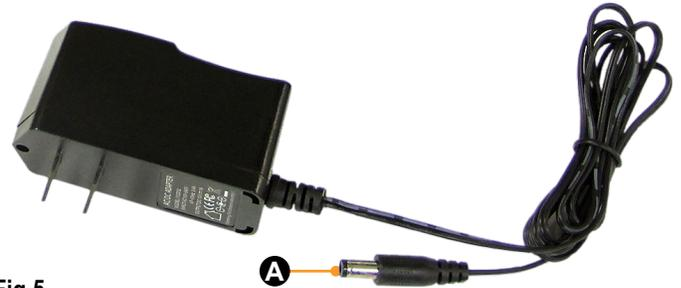

Fig.5
7. Use the 120V AC/DC adapter (Fig.5) for a power source by inserting the power supply's barrel connector (Fig.5A) into the back of the cellular gateway (Fig.7A), or plug the 12V DC/DC barrel connector (Fig.6B) into the back of the cellular gateway (Fig.7A).
8. Plug the 120V AC/DC adapter (Fig.5) into a wall outlet or utilize the 12V DC/DC adapter (Fig.6) by connecting the red and black wires (Fig.6A) to a 12V power source.